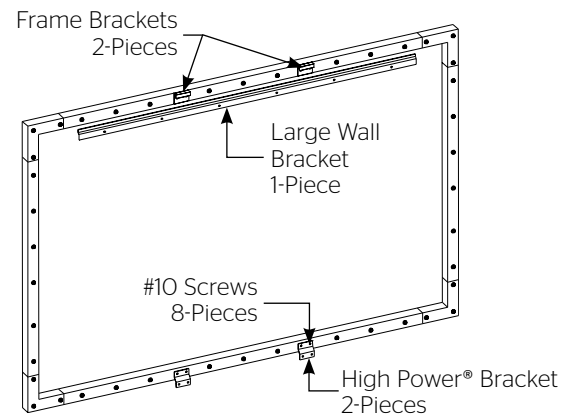

Figure 9
1. Use the supplied #10 screws to attach two frame brackets and two High Power® brackets to the back of the frame as shown in Figure 9.